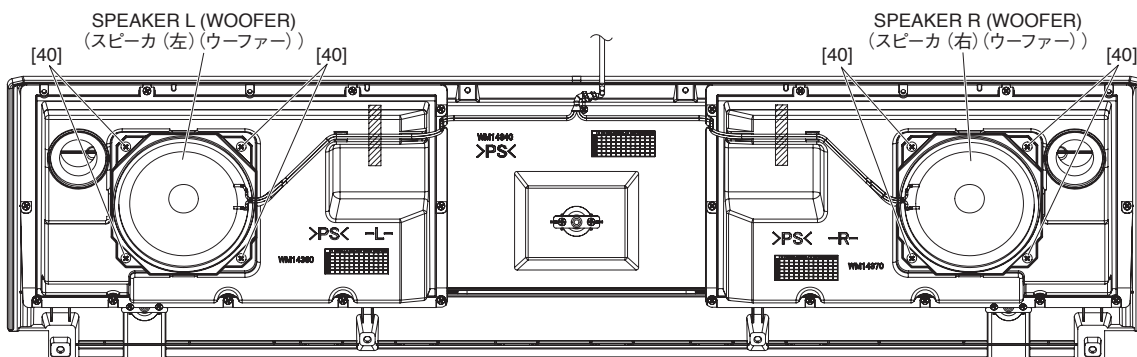

Fig.11 (図11)
- 14-2 Remove the four (4) each screws marked [40] to the right and left. The speakers (woofers) to the right and left can then be removed. (Fig.11)
- 14-2 [40] のネジを左右 4 本ずつ外して、左右のスピーカ (ウーファー) をそれぞれ外します。(図 11)